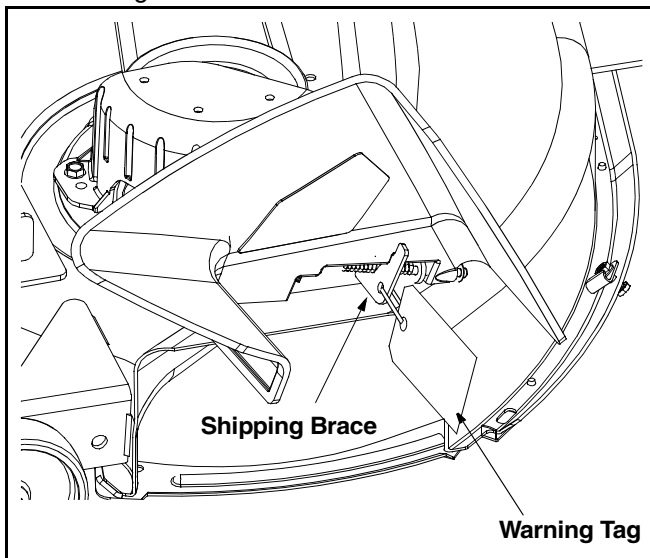

Figure 6
- Locate the shipping brace and accompanying warning tag found on the right side of the mower, between the discharge chute and the cutting deck. See Figure 6.